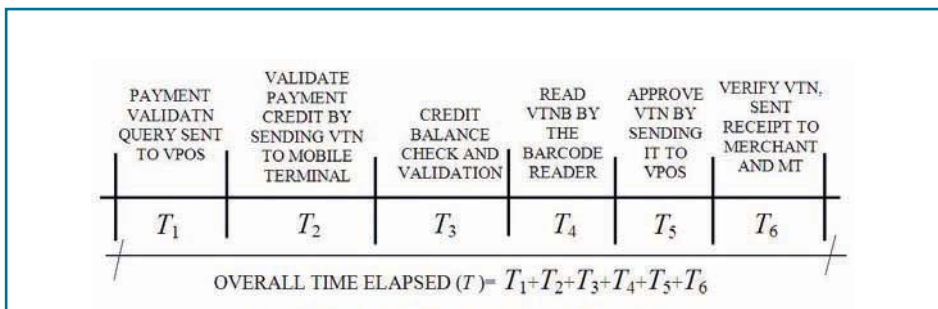

Figure 7: The delays involved in the VTNB method
service provider and the mobile terminal (MT), preferably as a function of the International Mobile Equipment Identity (IMEI) number of the MT. The provision of the VTN is the major challenge in the proposed method of payment and more research is to be made to eliminate delay in generating VTN without compromising security. The delays involved are presented in **Figure 7**.